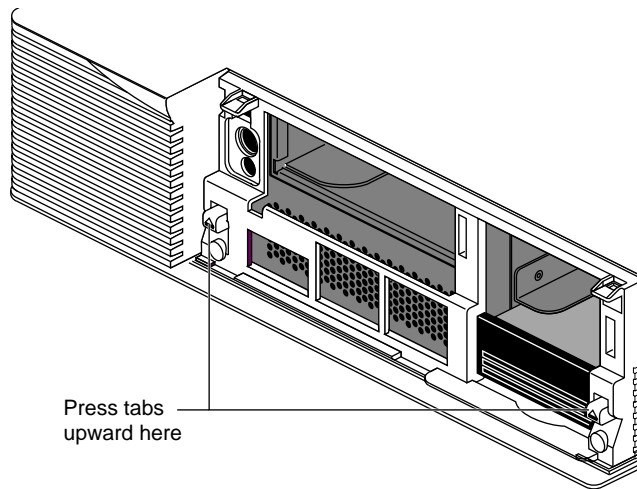

Figure 5-5 Releasing the Top Cover
- Press up on the tabs on each side of the drive openings, as shown in Figure 5-5.